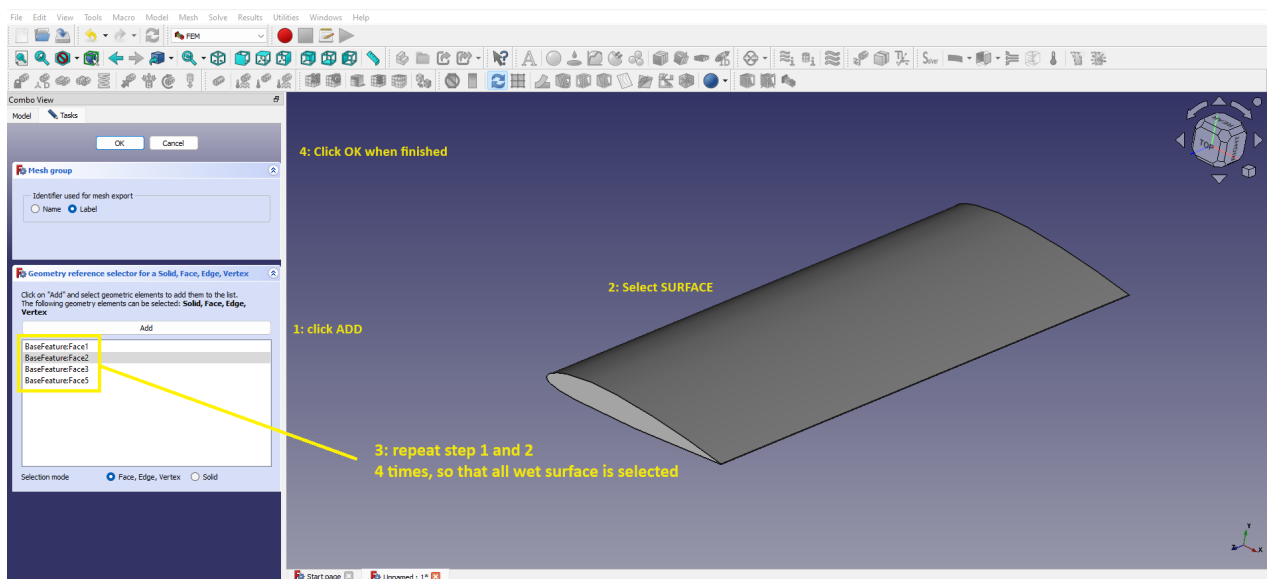

Figure 19: FreeCAD: wet surface steps
- Select again the mesh (**FEMMeshGmsh**) and define a new group comprising all components of the **wetSurface** (they are 4: as shown below. Pay attention to the trailing edge surface, you need to zoom-in to see it). See Figures 19 and 20.